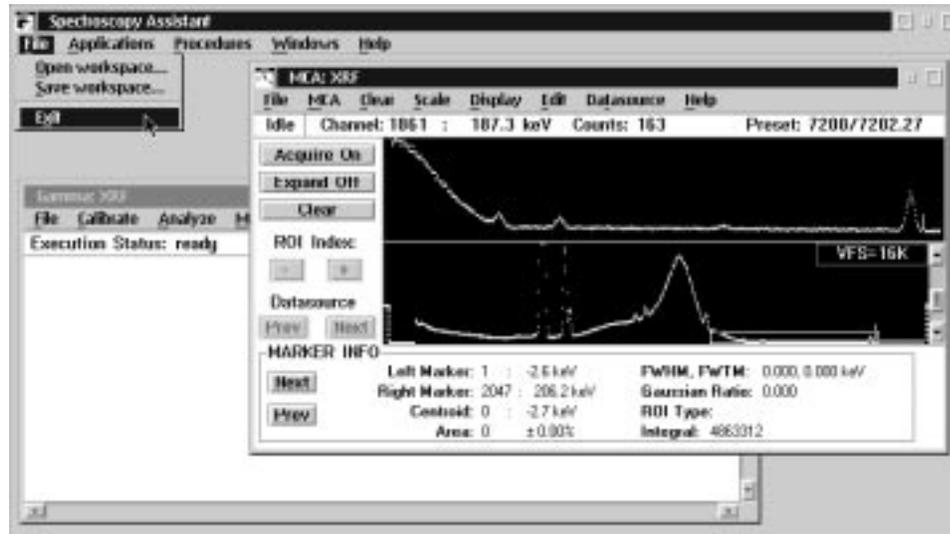

Figure 23. Window showing exit from “Spectroscopy Assistant.” This concludes the XRF energy calibration.
- Using the “File” menu item in the “Spectroscopy Assistant” window, select “Exit” to close the “MCA View Control” and “GSA” windows and exit “Spectroscopy Assistant” as shown in Figure 23. This completes the XRF energy calibration.